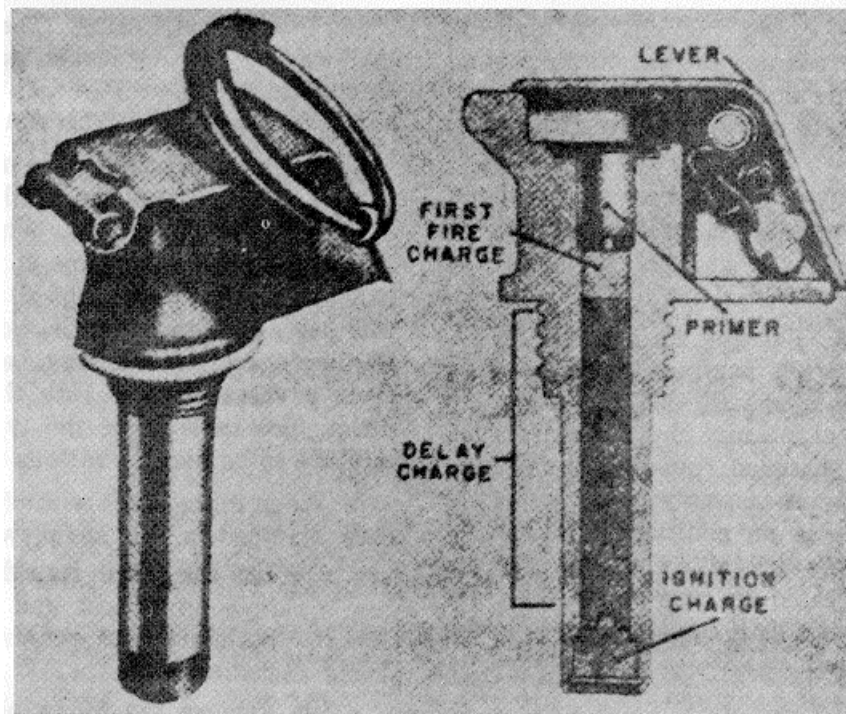
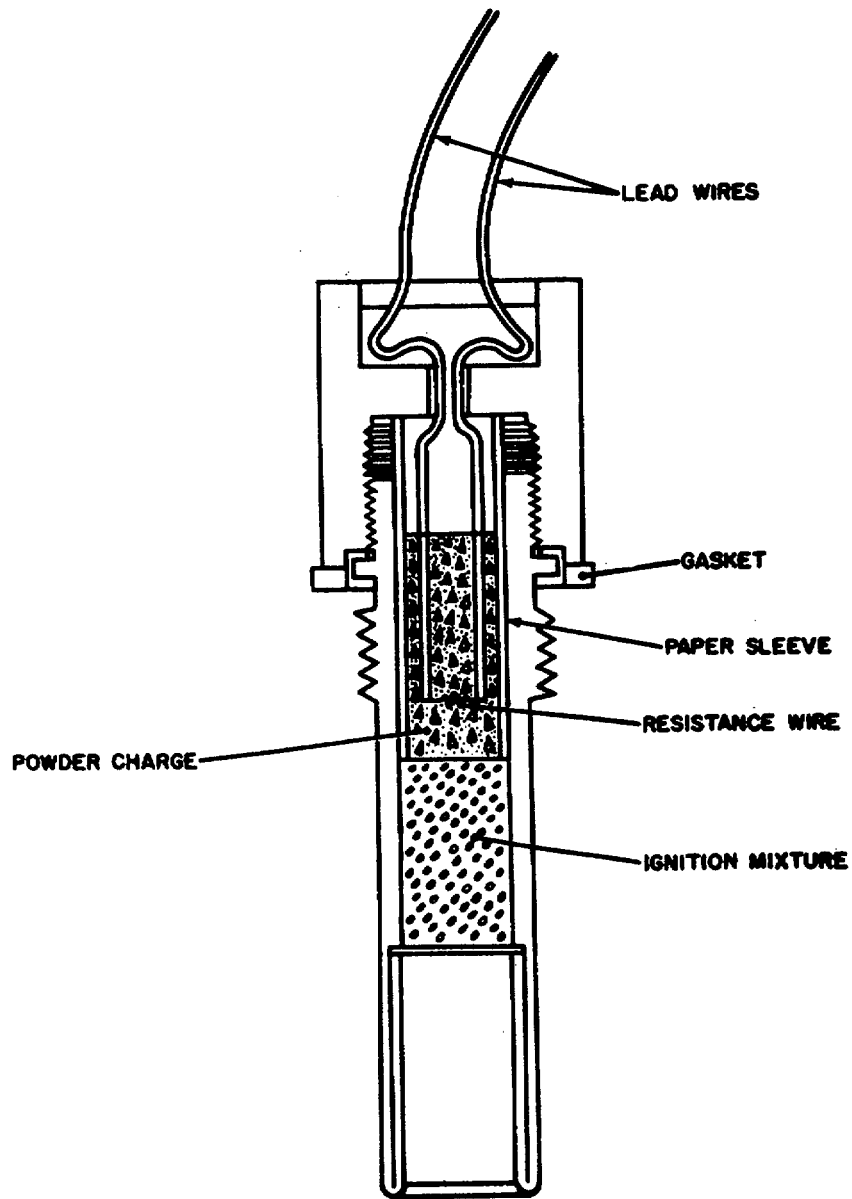

Figure 14. M208 floating smoke pot fuze.
Figure 15. M209 electric floating smoke pot fuze.
c. *Fuzes.* Either an M208 floating smoke pot fuze (fig. 14) or an M209 electric floating smoke pot fuze (fig. 15) can be used to ignite the smoke pot.